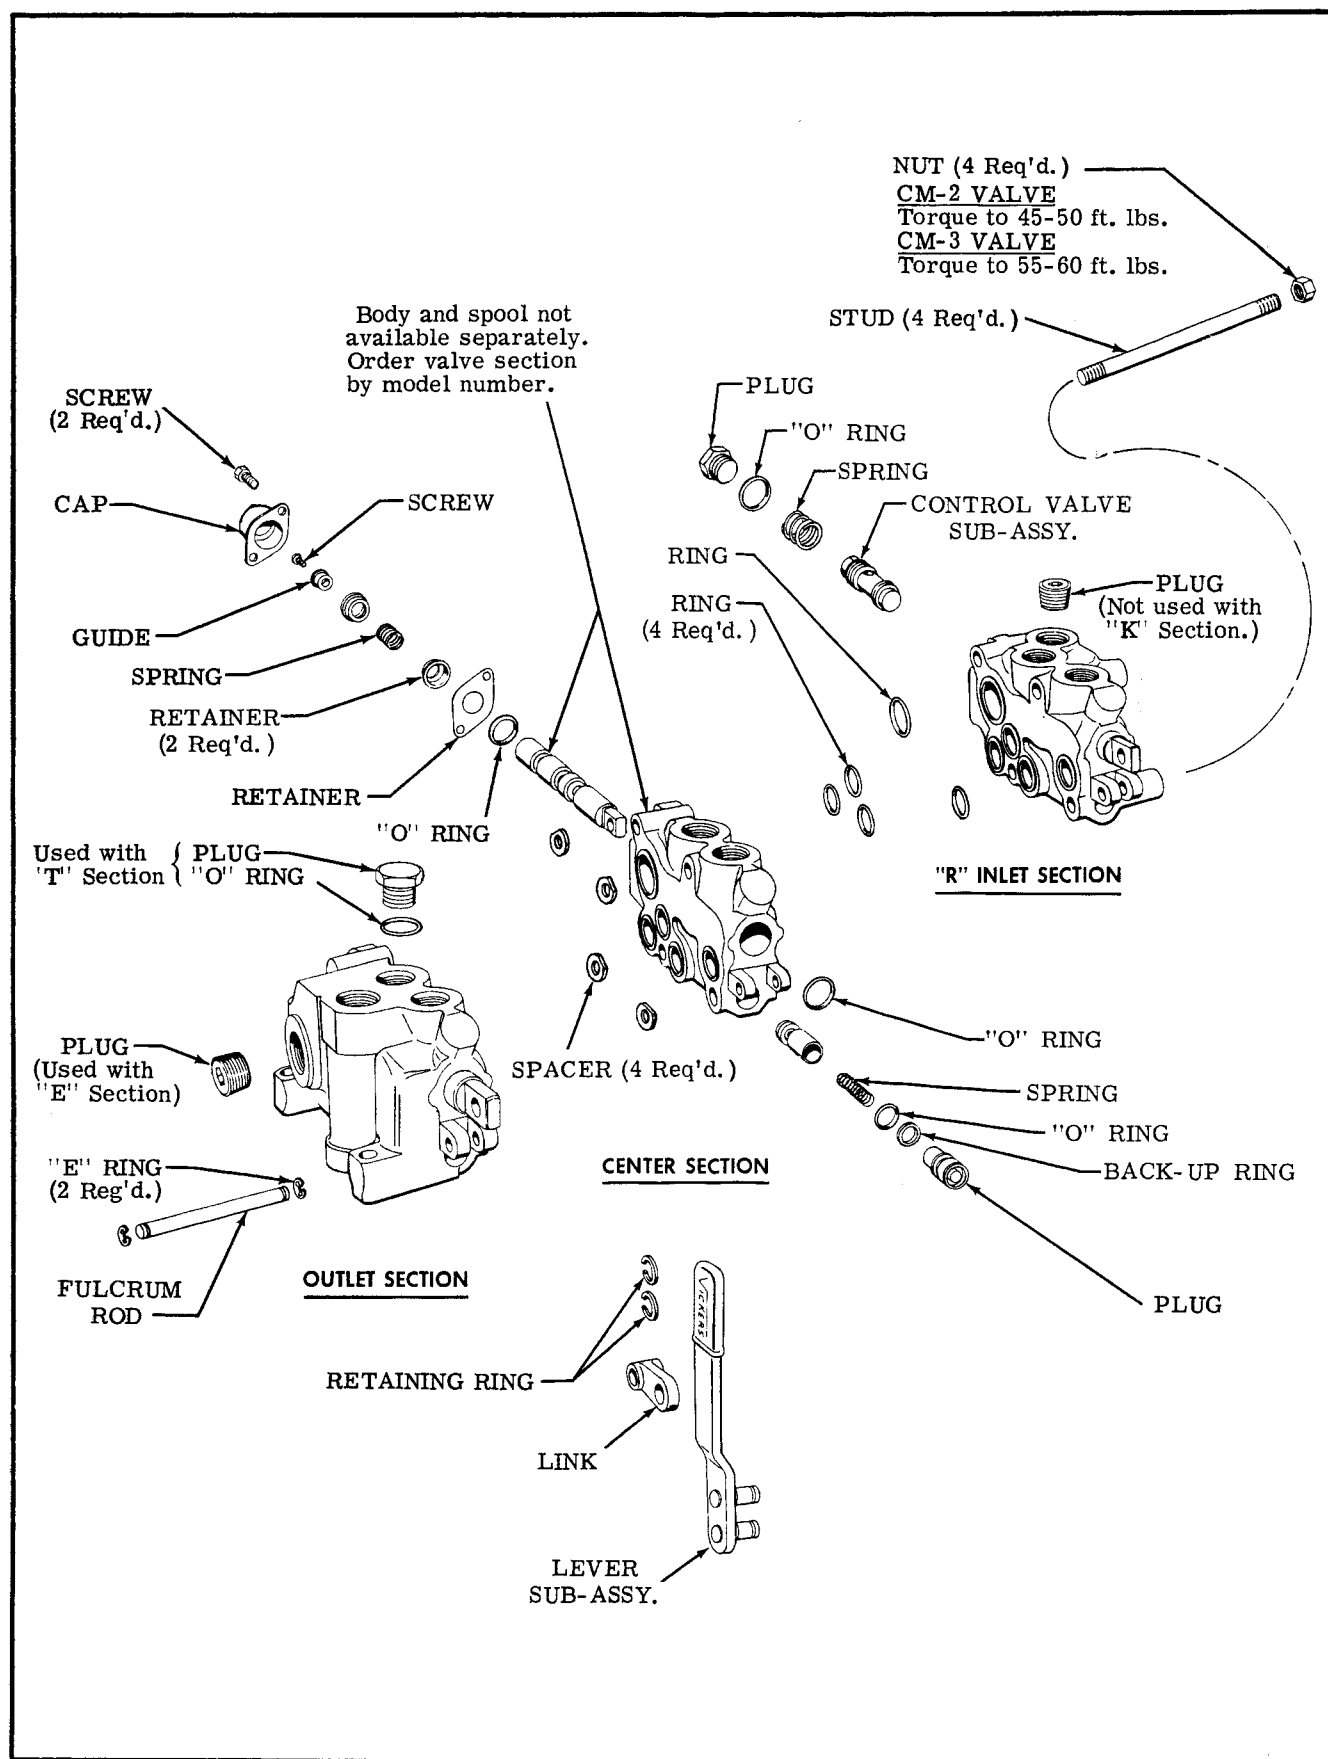

Figure 9
Figure 9 and 9A is an exploded view showing the proper relationship for reassembly. Reference is made to these figures in the procedures which follow.
1. Valve Body (Figure 9) - On models with single-acting spool, install the "O" ring on the port plug and plug the appropriate cylinder port. Tighten the plug securely, but DO NOT over tighten.